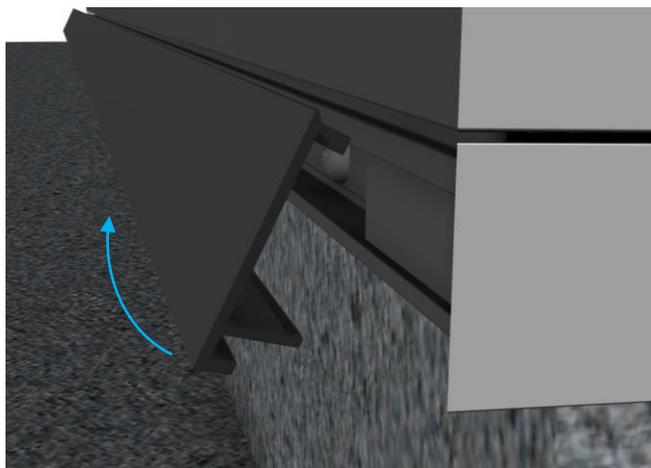

Figure 4 – Clip release direction
4. Remove the clip on covers around the lower perimeter of the rooflight. This is done by first pulling the bottom to release as shown in *Figure 4*.